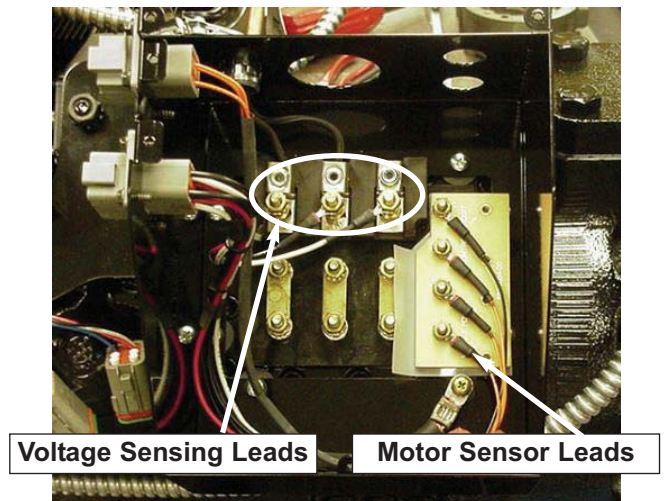

Figure 5.8 4D Terminal Box Assembly
3. Remove the voltage sensing wires from the terminal posts. (figure 5.8)
4. Remove the motor sensor leads from the sensor lead terminal strip. (figure 5.8)